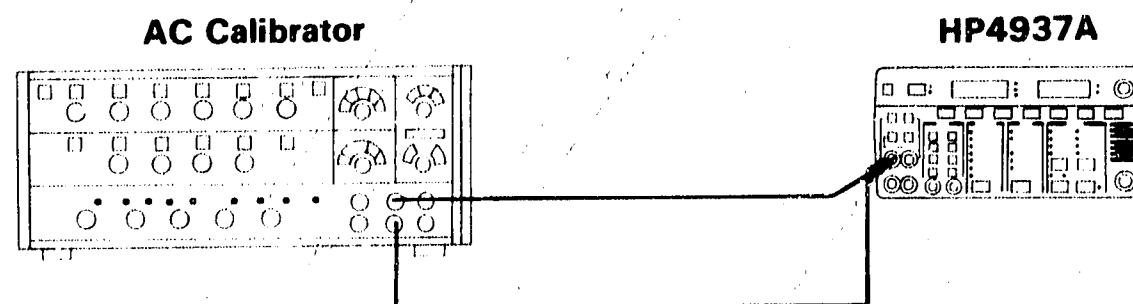

Figure 4-6. Filter Tests
1. Connect equipment as shown in figure 4-6.